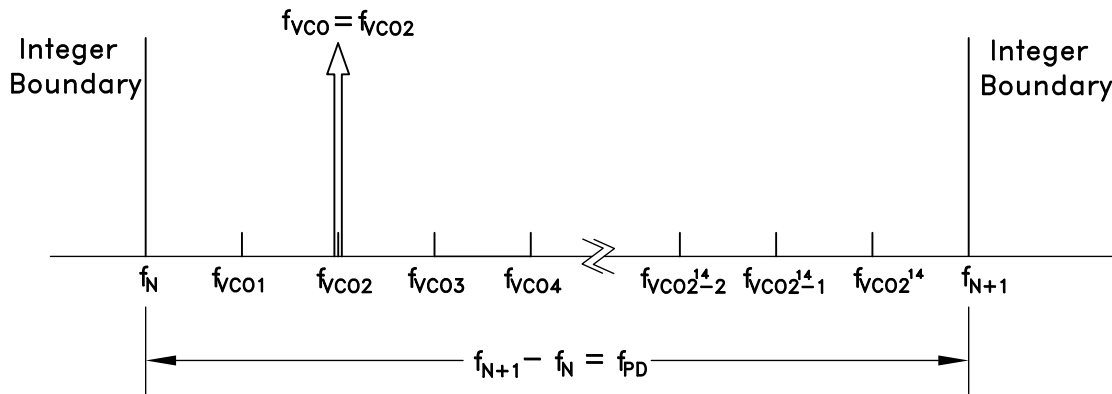

Figure 44. Exact Frequency Tuning
and  $f_{VCOk}$  are the channel step frequencies where  $0 < k < 2^{24}-1$ , As shown in Figure 44.
Some fractional PLLs are able to achieve this by adjusting (shortening) the length of the Phase Accumulator (the denominator or the modulus of the Delta-Sigma modulator) so that the Delta-Sigma modulator phase accumulator repeats at an exact period related to the interval frequency ( $f_{VCOk} - f_{VCO(k-1)}$ ) in Figure 44. Consequently, the shortened accumulator results in more frequent repeating patterns and as a result often leads to spurious emissions at multiples of the repeating pattern period, or at harmonic frequencies of  $f_{VCOk} - f_{VCO(k-1)}$ . For example, in some applications, these intervals might represent the spacing between radio channels, and the spurious would occur at multiples of the channel spacing.
If it is desirable to have multiple, equally spaced, exact frequency channels that fall within the same interval (ie.  $f_N \leq f_{VCOk} < f_{N+1}$ ) where  $f_{VCOk}$  is shown in Figure 44 and  $1 \leq k \leq 2^{14}$ , it is possible to maintain the same integer-N (Reg\\_03h) and exact frequency register (Reg\\_0Ch) settings and only update the fractional register (Reg\\_04h) setting. The Exact Frequency Channel Mode is possible if \(EQ 17\) is satisfied for at least two equally spaced adjacent frequency channels, i.e. the channel step size.
To configure the HMC834LP6GE for Exact Frequency Channel Mode, initially and only at the beginning, integer (Reg\\_03h) and exact frequency (Reg\\_0Ch) registers need to be programmed for the smallest  $f_{VCO}$  frequency ( $f_{VCO1}$  in Figure 44), as follows:
1. Calculate and program the integer register setting Reg\\_03h =  $N_{INT} = \text{floor}(f_{VCO1}/f_{PD})$ , where  $f_{VCO1}$  is shown in Figure 44 and corresponds to minimum channel VCO frequency. Then the lower integer boundary frequency is given by  $f_N = N_{INT} \cdot f_{PD}$ .
Reg 04h =  $N_{FRAC} = \text{ceil}\left(\frac{2^{24}(f_{VCOk} - f_N)}{f_{PD}}\right)$  where  $f_N = \text{floor}(f_{VCO1}/f_{PD})$ , and  $f_{VCO1}$ , as shown in Figure 44, represents the smallest channel VCO frequency that is greater than  $f_N$ .
- To change from channel 1 ( $f_{VCO1} = 2800.2$  MHz) to channel 2 ( $f_{VCO2} = 2800.3$  MHz), only Reg 04h needs to be programmed, as long as all of the desired exact frequencies  $f_{VCOk}$  (Figure 44) fall between the same integer-N boundaries ( $f_N < f_{VCOk} < f_{N+1}$ ). In that case